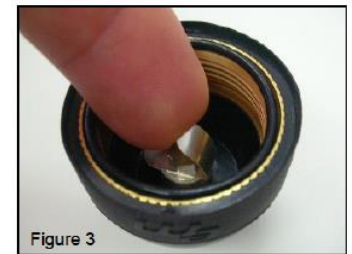

Figure 3
- b. Ensure O-ring groove as shown in Figure 3.
**4. Tuning and Installation (Figure 3):**